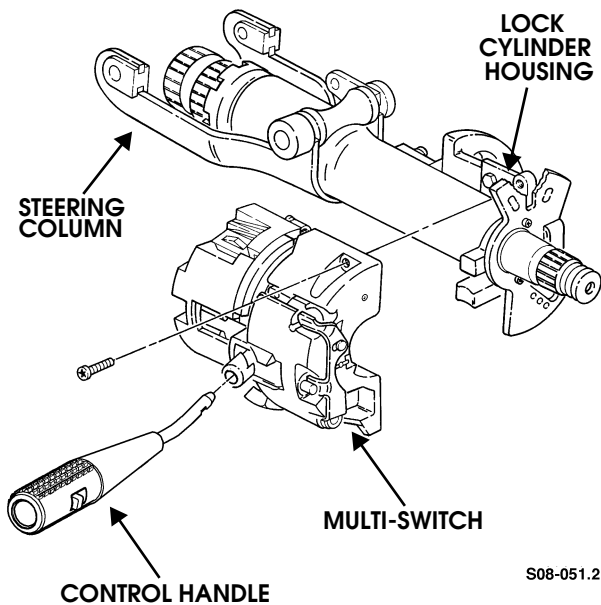

Figure 8-12: Steering Column Multi-Switch Replacement
2. Remove two screws and multi-switch from steering column (Figure 8-12).
1. Attach control handle to multi-switch (Figure 8-12).
3. Remove two screws and multi-switch from steering column (Figure 8-12).
3. Remove two screws and the multi-switch assembly from the lock cylinder housing (Figure 8-12).
5. Secure the multi-switch assembly to the lock cylinder housing with two screws. Tighten screws to 35-40 lb-in. (3.9-4.5 N•m) (Figure 8-12).
1. Remove two screws and the multi-switch assembly from the lock and switch housing (Figure 8-12).
5. Connect the multi-switch assembly to the lock and switch housing with two screws (Figure 8-12).